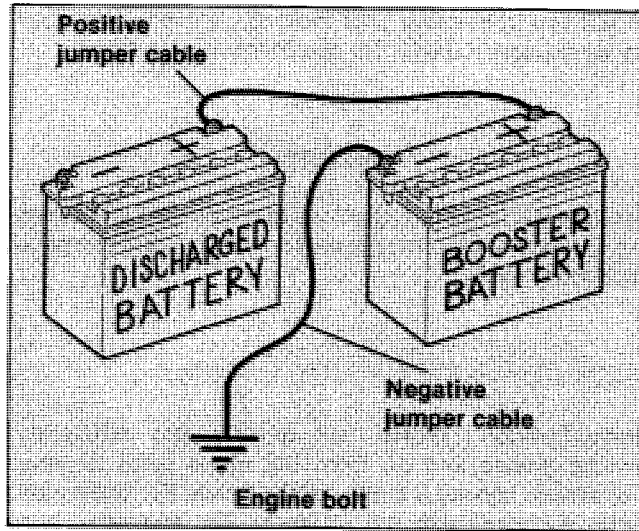

Figure 40. Jump Start Cable Connections
2. See Figure 40. Connect one end of a jumper cable to the DISCHARGED battery positive (+) terminal.